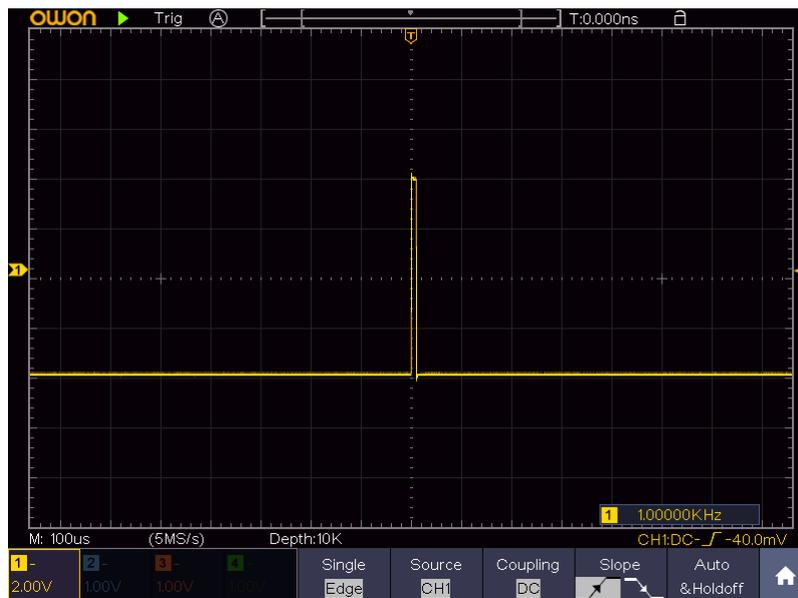

Figure 9-3 Capturing a Single Signal
- (2) Push **CH1** button to select CH1, adjust the **Vertical Scale** and **Horizontal Scale** rotary controls to set up a proper vertical and horizontal ranges for the signal to be observed.
- (3) Push the **Acquire** button to display the Acquire menu.
- (4) Select **Acqu Mode** in the bottom menu. Select **Peak Detect** in the right menu.
- (5) Push the **Trigger Menu** button to display the Trigger menu.
- (6) Select the first menu item in the bottom menu. Select **Single** in the right menu.
- (7) In the left menu, select **Edge** as the mode.
- (8) Select **Source** in the bottom menu. Select **CH1** in the right menu.
- (9) Select **Coupling** in the bottom menu. Select **DC** in the right menu.
- (10) In the bottom menu, select **Slope** as  (rising).
- (11) Turn the **Trigger Level** rotary control and adjust the trigger level to the roughly 50% of the signal to be measured.
- (12) Check the Trigger State Indicator on the top of the screen, if it is not Ready, push down the **Run/Stop** button and start acquiring, wait for trigger to happen. If a signal reaches to the set trigger level, one sampling will be made and then displayed in the screen. By using this approach, a random pulse can be captured easily. For instance, if we want to find a burst burr of high amplitude, set the trigger level to a slightly higher value of the average signal level, push the **Run/Stop** button and wait a trigger. Once there is a burr occurring, the instrument will trigger automatically and record the waveform during the period around the trigger time. By turning the **Horizontal Position** rotary control in the horizontal control area in the panel, you can change the horizontal triggering position to obtain the negative delay, making an easy observation of the waveform before the burr occurs (see *Figure 9-3*).